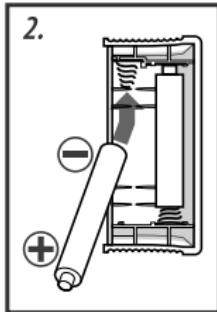

Fig.3
2. Install two AAA alkaline dry cells in the battery compartment, giving attention to their polarity (fig.3).